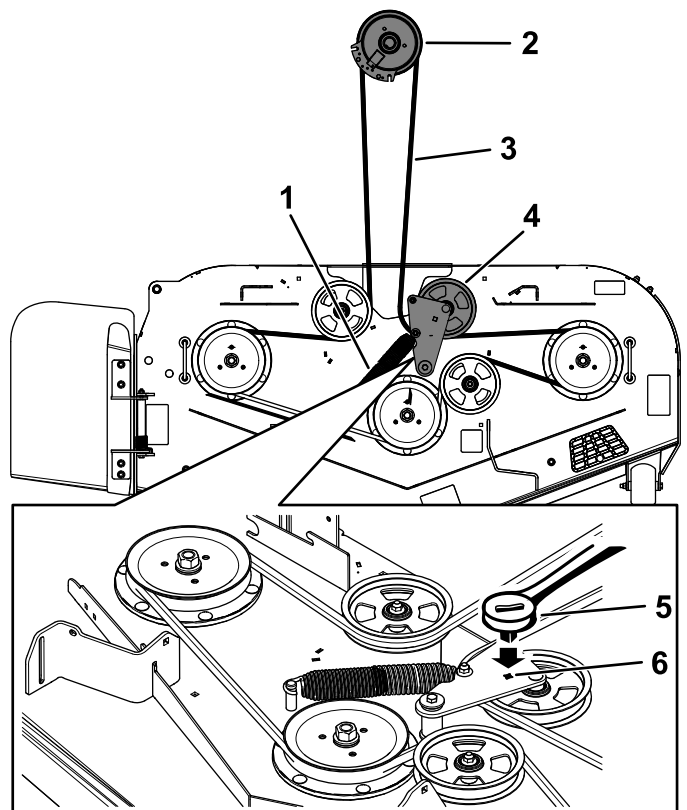

Figure 60
13. Install the belt guide on the idler arm (Figure 60).
14. Using the 3/8-inch ratchet in the square hole, install the idler spring (Figure 60).
8. Use a 3/8-inch ratchet in the square hole in the idler arm to remove tension on the idler spring (Figure 60).
10. Remove the belt guide on the spring-loaded idler arm (Figure 60).
12. Install the new belt around the mower pulleys and the clutch pulley under the engine (Figure 60).